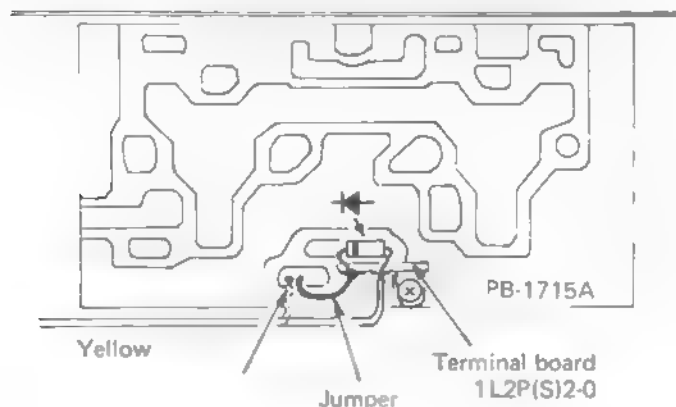

Figure 1
- (1) Fix a three-terminal soldering post to the chassis, using a self-tapping screw, as illustrated in Fig. 1.
- (2) Solder a 10D10 diode to the post as shown, being careful to observe proper diode polarity.
- (3) Remove the yellow wire previously connected to the circuit board, as shown in Fig. 1. Solder it to the anode of the diode, as shown in the drawing.
- (4) Connect a lead from the cathode end of the diode to the circuit board, in the position previously occupied by the yellow wire.
- (5) The modified schematic is shown below.